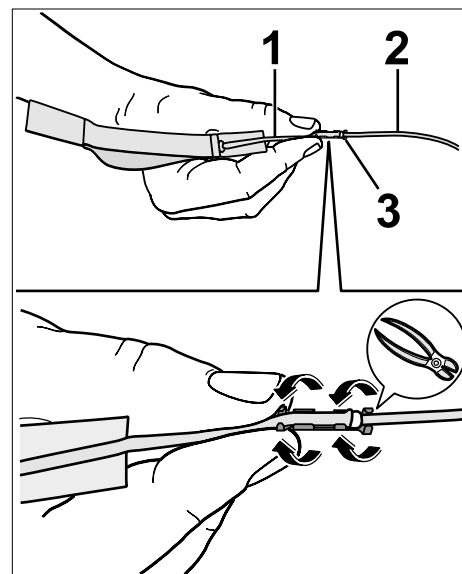

Figure 4
- 2.4 Overlap the cut end of the tension rope ⇒ *Figure 4 -Pos. 2-* with the loose end of the new end piece from the repair kit ⇒ *Figure 4 -Pos. 1-* and insert them into the insulated cable connection ⇒ *Figure 4 -Pos. 3-*. Then press the insulated cable connection together securely using crimping pliers ⇒ *Figure 4 -Arrow-*.
The two outer and inner crimping lugs of the insulated cable connection must be bent over and pressed together completely using the crimping pliers ⇒ *Figure 4 -Arrow-*.